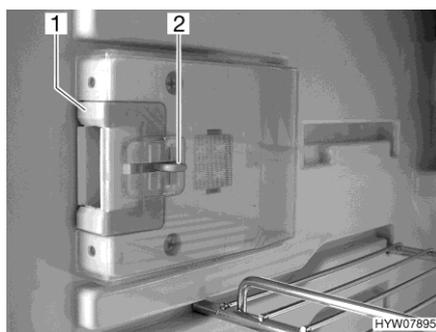
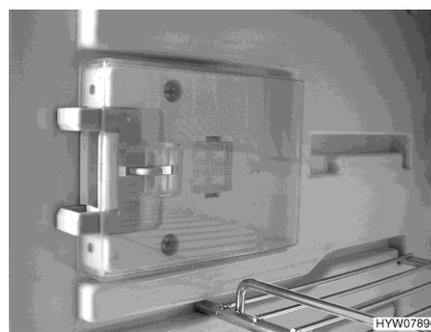

Fig. 253 Locking device (normal position)
Fig. 254 Locking device (ventilation position)
- Press down the unlocking device (Fig. 253,2).
- Push locking device (Fig. 253,1) forwards (Fig. 254).